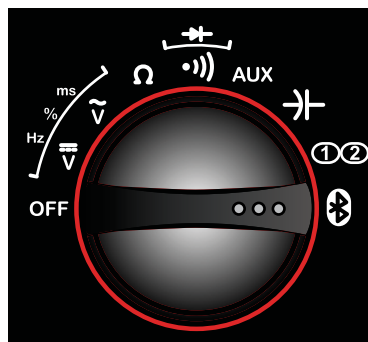

Figure 12-4 Rotary switch Remote functions setting
2. Set the M2 rotary switch to the **Remote Functions** position (Figure 12-4).